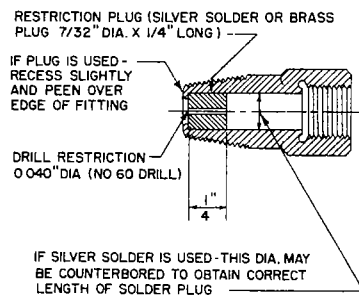

Figure 4. Typical Connector Fitting with .040 Restriction Installed
3. In some installations the connector between the fuel pump and vent line may be a standard flared fitting with a 7/32 inch diameter hole in the male end, similar to the one shown in figure 4. There are two methods (a or b) which a restriction may be installed in this fitting, or an alternate third method (c) for putting a restriction in the hose.